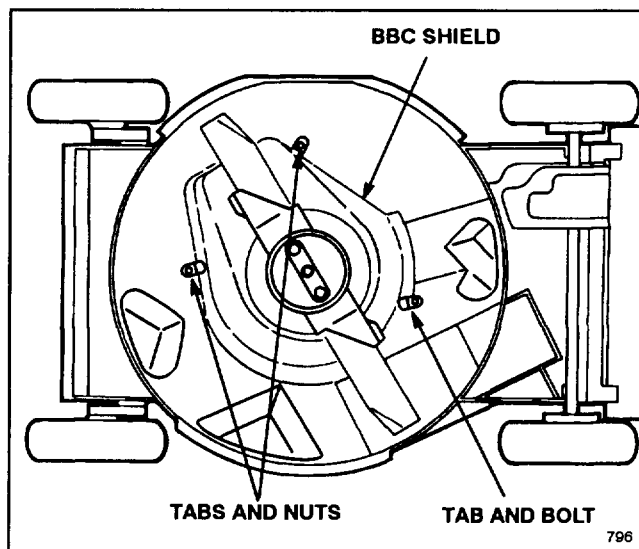

Figure 34
5. Loosen tabs securing BBC shield to deck by loosening nuts or bolts on tabs (Fig. 34). Rotate tabs 180° to move them out of the way.